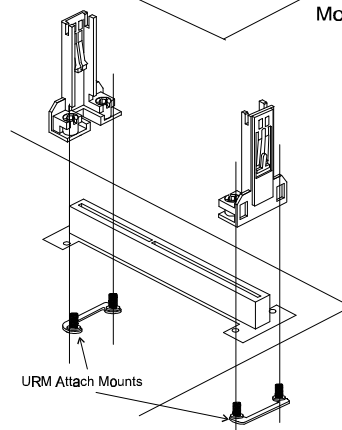

Figure 2-7
2. Install two Universal Retention Mechanism Attach Mounts (URMAM) with Bolt/Bridge assemblies inserted up through the bottom of the mainboard. (Notice the URMAM's bridge orientation as Figure 2-7)